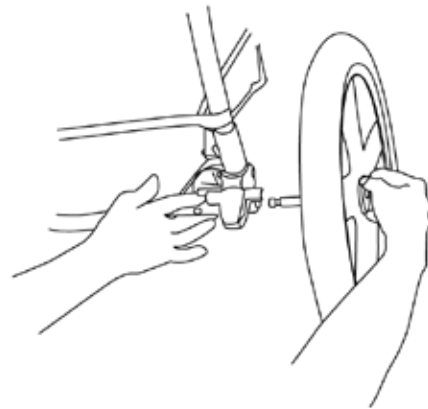
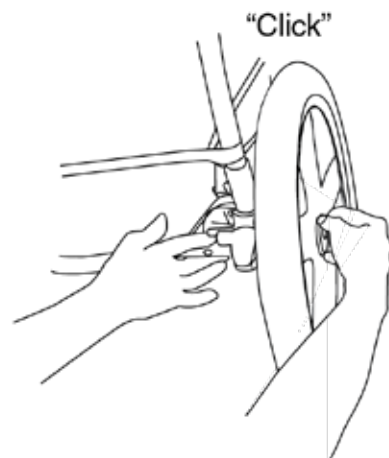

Fig. 2
Fig. 2A
6. To attach the rear wheels, lay stroller on its side. Align back wheel axle to the stroller's rear wheel axle housing (Fig. 2). Push the back wheel axle inward until you hear a "click" (Fig. 2A). Once in a fully locked position, check to make sure back wheel is in a fully locked position by pulling outward. Repeat steps for other side back wheel. NEVER use stroller if any wheels are not in a fully locked position. Please contact our customer service department immediately at 646-435-8726 for assistance.